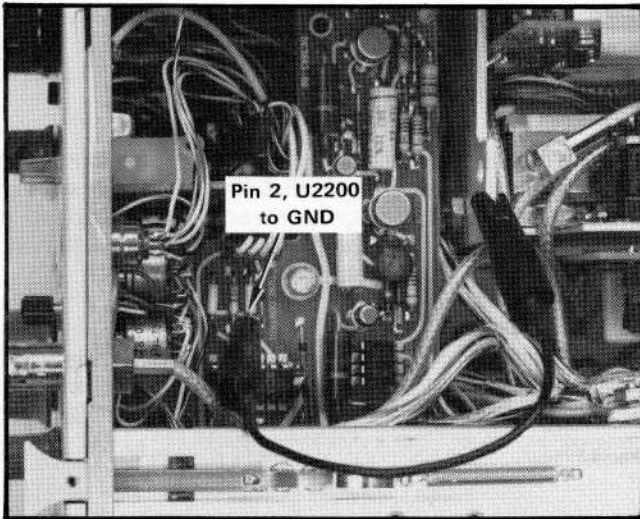
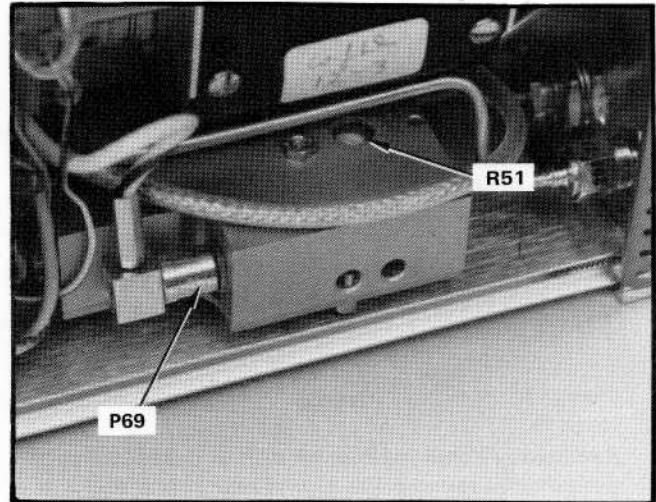

Fig. 4-5. Grounding strap connected to pin 2 of U2200.
Fig. 4-6. Location of P69 and R51 on Hybrid Assembly A50.
a. Switch the 7L13 into phase locked mode by setting the FREQ SPAN/DIV to 50 kHz and switch the AUTO PHASE LOCKED switch on. Ground pin 2 of U2200 on the tune control circuit board, with a jumper strap (Fig. 4-5). Remove P69 (Fig. 4-6) from the hybrid assembly A50.
c. Adjust R51, (Fig. 4-6) so the dc reference level of the error signal is 0 volt.